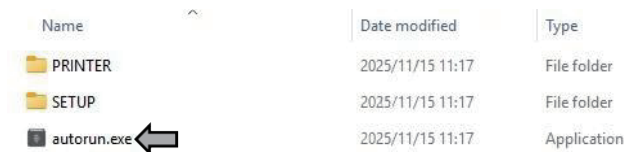

Fig.1
- ① Connect the printer to the power source, turn on the printer.
- ② Use a USB cable to connect the printer to the Windows computer.
- ① Navigate to the driver download link at www.label-download.com, download and extract the driver package. Then double-click the installation file named "autorun.exe" to begin installation (see Figure 1).